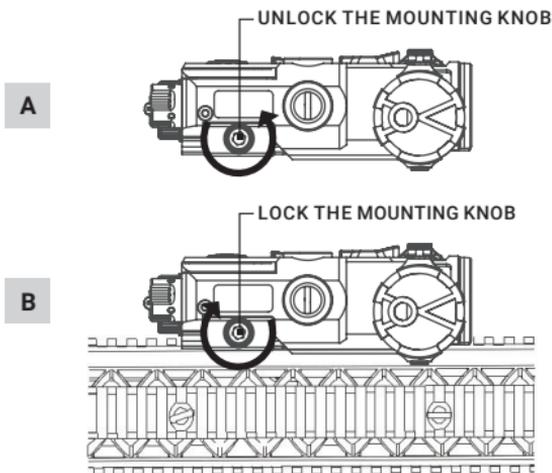

FIGURE 2-2. MOUNT
Install the WLAD on a Picatinny/ Weaver rail as follows (refer to Figure 2-2):
1. Loosen the locking mounting knob (refer to Figure 2-2, A). Open the Picatinny rail card slot.
3. Lock the mounting knob (refer to Figure 2-2, B).